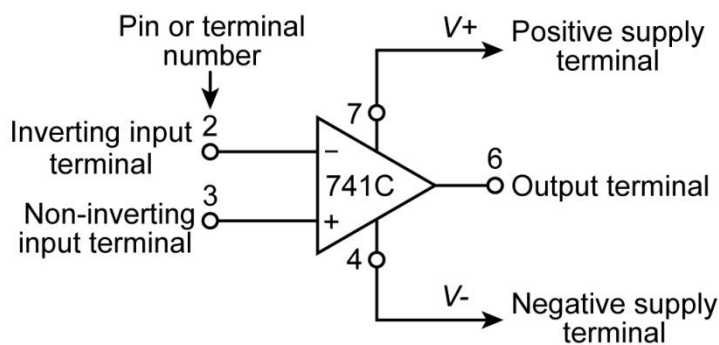

Fig. 8.1: Symbol for an op amp.
Most commonly used op amp in integrated circuit (IC) form is IC 741C. The symbol used for op amp is shown in Fig. 8.1. It is a triangle pointing to the signal flow. This symbol also shows the terminal (or pin) numbers for a general purpose and very popular op amp integrated circuit – IC 741C. All op amps have at least five terminals – two for inputs, two for power supply and one for the output. General purpose 741C has some other terminals as well.